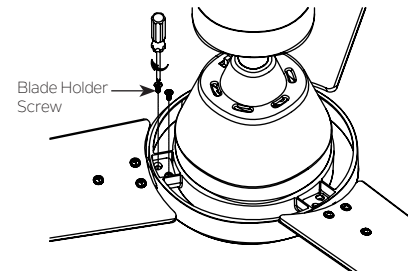

Fig. 21
Step 2. Align with two (2) screw holes and securely fasten with blade holder screws found on the hardware package. (Fig. 21)